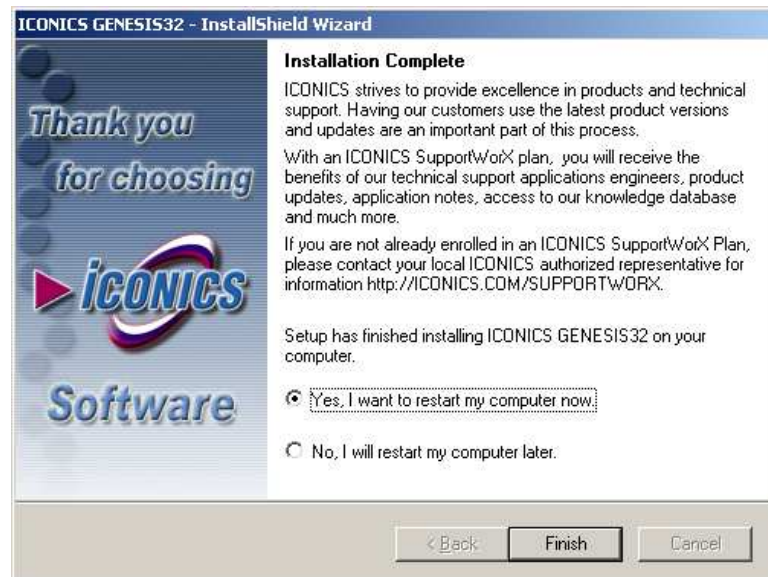

Figure L1.6 - Installation Complete
10. The installation will continue. Once it completes, you should see the Installation Complete dialog shown in Figure L1.6, which may ask you to restart the computer.